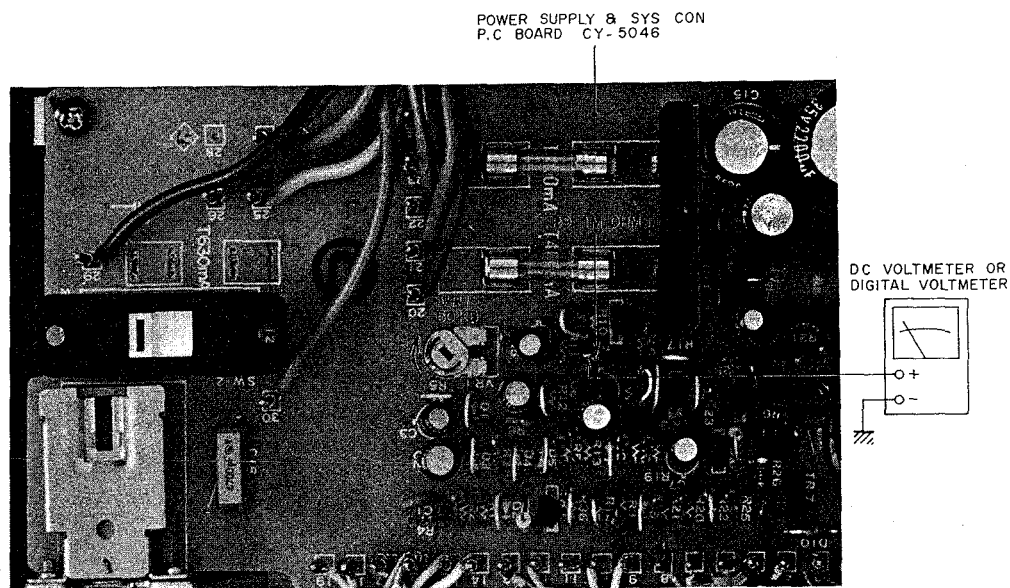

Fig. 17
8. DETECTION TAPE GUIDE SENSITIVITY ADJUSTMENT (Refer to Fig. 17)